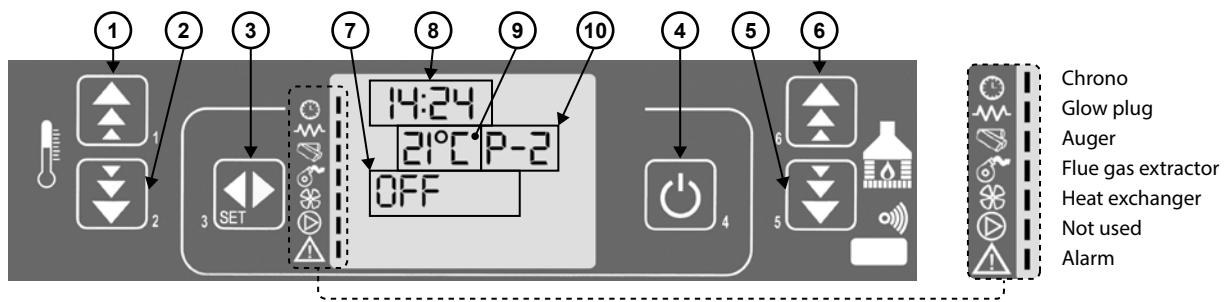

fig. 14a Description of buttons
This allows you to set the current time and date. The control panel is equipped with a lithium battery that allows for 3/5-year autonomous operation of the internal clock. To modify the values, from the **03 - Set Chrono** menu, using the (5) and (6) keys fig. 14a scroll the items until "02 - program day", choose the new values with the keys (1) and (2) fig. 14a, and confirm by pressing key (3) fig. 14a.
This allows you to select the dialogue language among those available. To modify the language, go to the menu **04 - Choose language**, using the keys (1) and (2) fig. 14a to scroll the items until you reach the desired language.